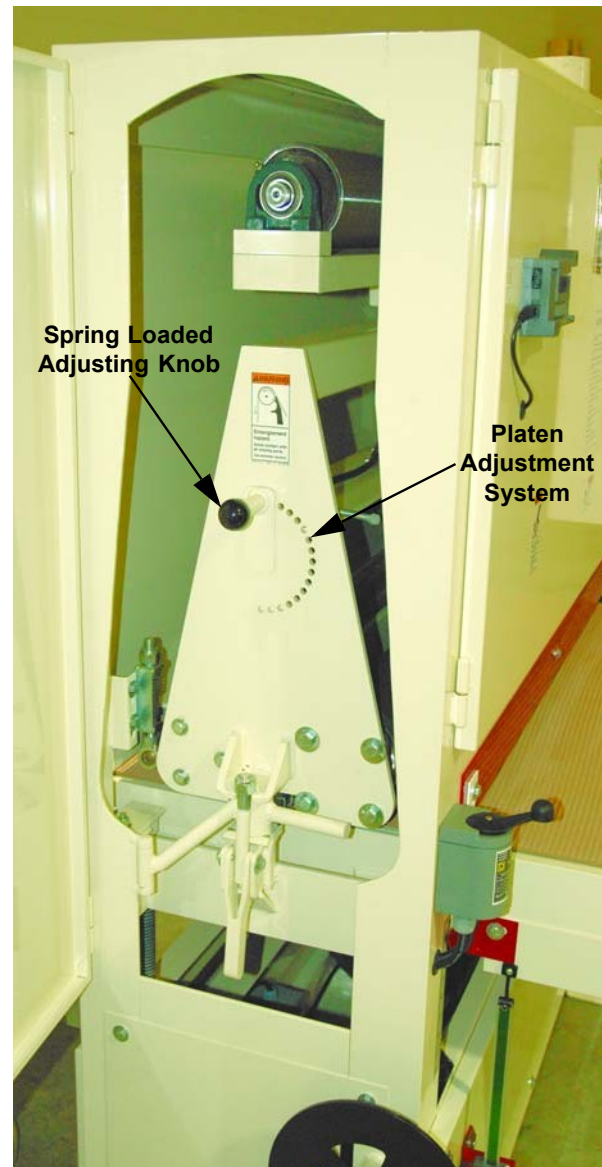

Figure 51: Platen Adjustment System - 43"x75" Only
1. Locate the platen adjustment system. It is located inside the belt loading door. See Fig. 51.
2. Locate the spring loaded adjusting knob. See Fig. 51. The spring loaded adjusting knob can be positioned in any of a series of holes in a half circle formation. See Fig. 51.
3. If the spring loaded adjusting knob is up (as shown in Fig. 51), the platen is up. If the adjusting knob is down, the platen is down. See Fig. 51.
8. After completing the finish sanding, adjust the spring loaded adjustment knob back to the 12 o'clock position to start using your contact roller again. See Fig. 51.